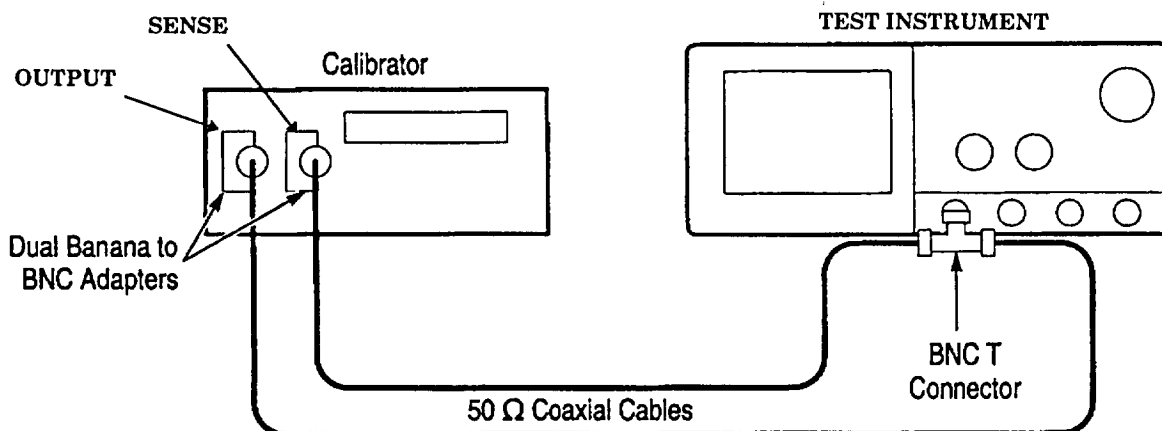

Figure 6. Equipment setup.
- (1) Connect equipment as shown in figure 6 below.